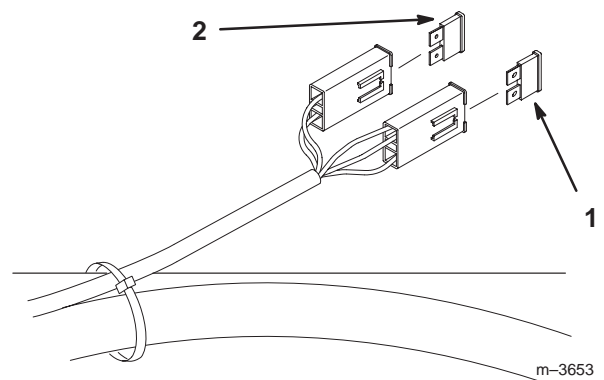

Figure 60
1. Raise the seat to gain access to fuse holder (Fig. 60).
2. To replace the fuses, pull out on the fuse to remove it (Fig. 60).